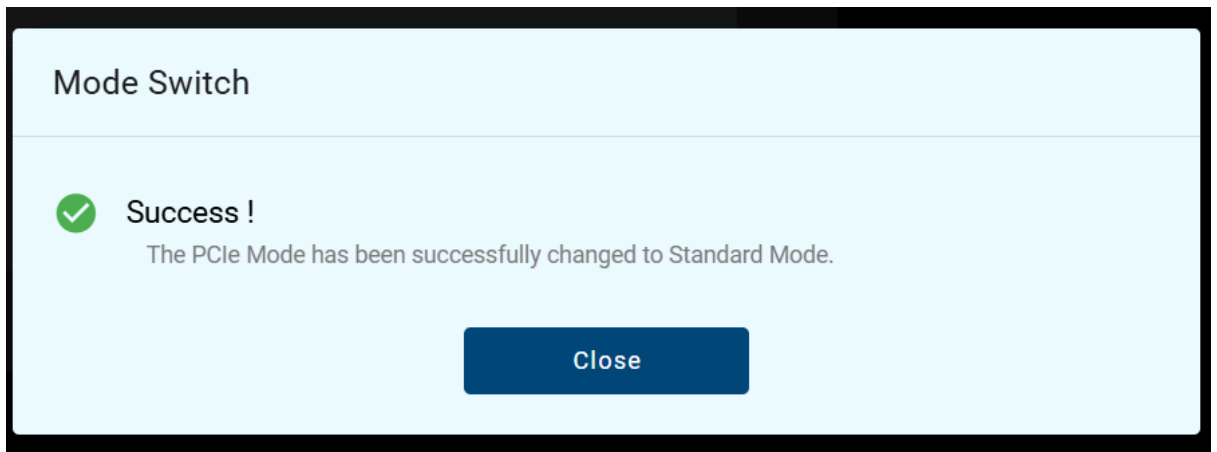

Figure 96. Success Confirmation
- A. After the system completes the configuration, a success message will appear, as shown in Figure 96.